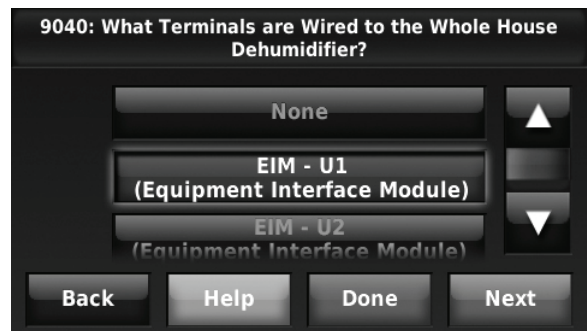

Fig. 229.
4. Select the terminals wired to the Whole House Dehumidifier. See Fig. 229.